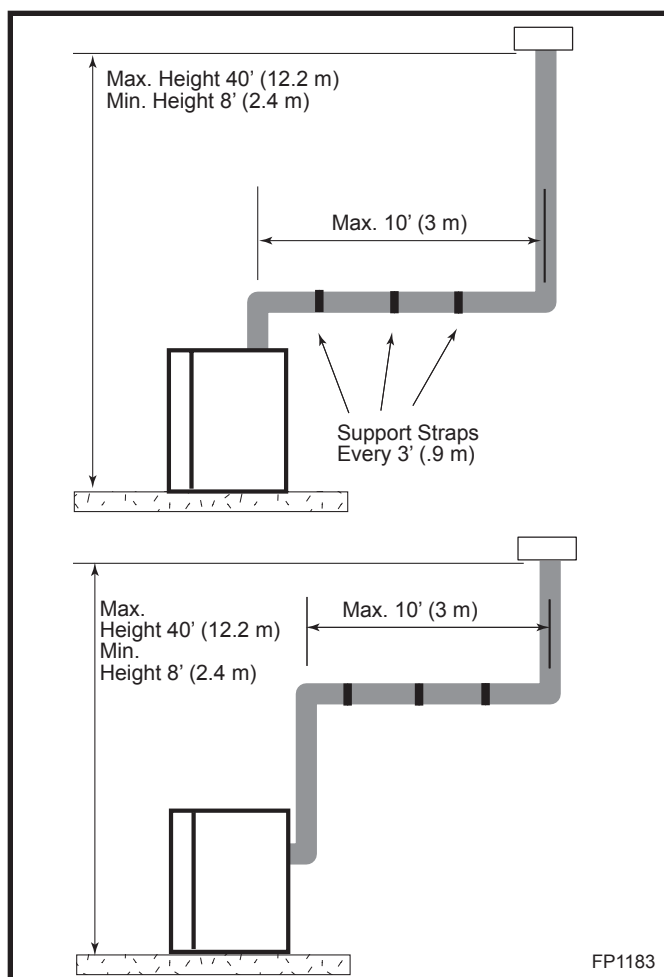

Fig. 39 Support straps for horizontal runs.
- Vertical installations up to 40' (12 m) in height. Up to a 10' (3 m) horizontal vent run can be installed within the vent system using a maximum of two 90° elbows. (Fig. 39)